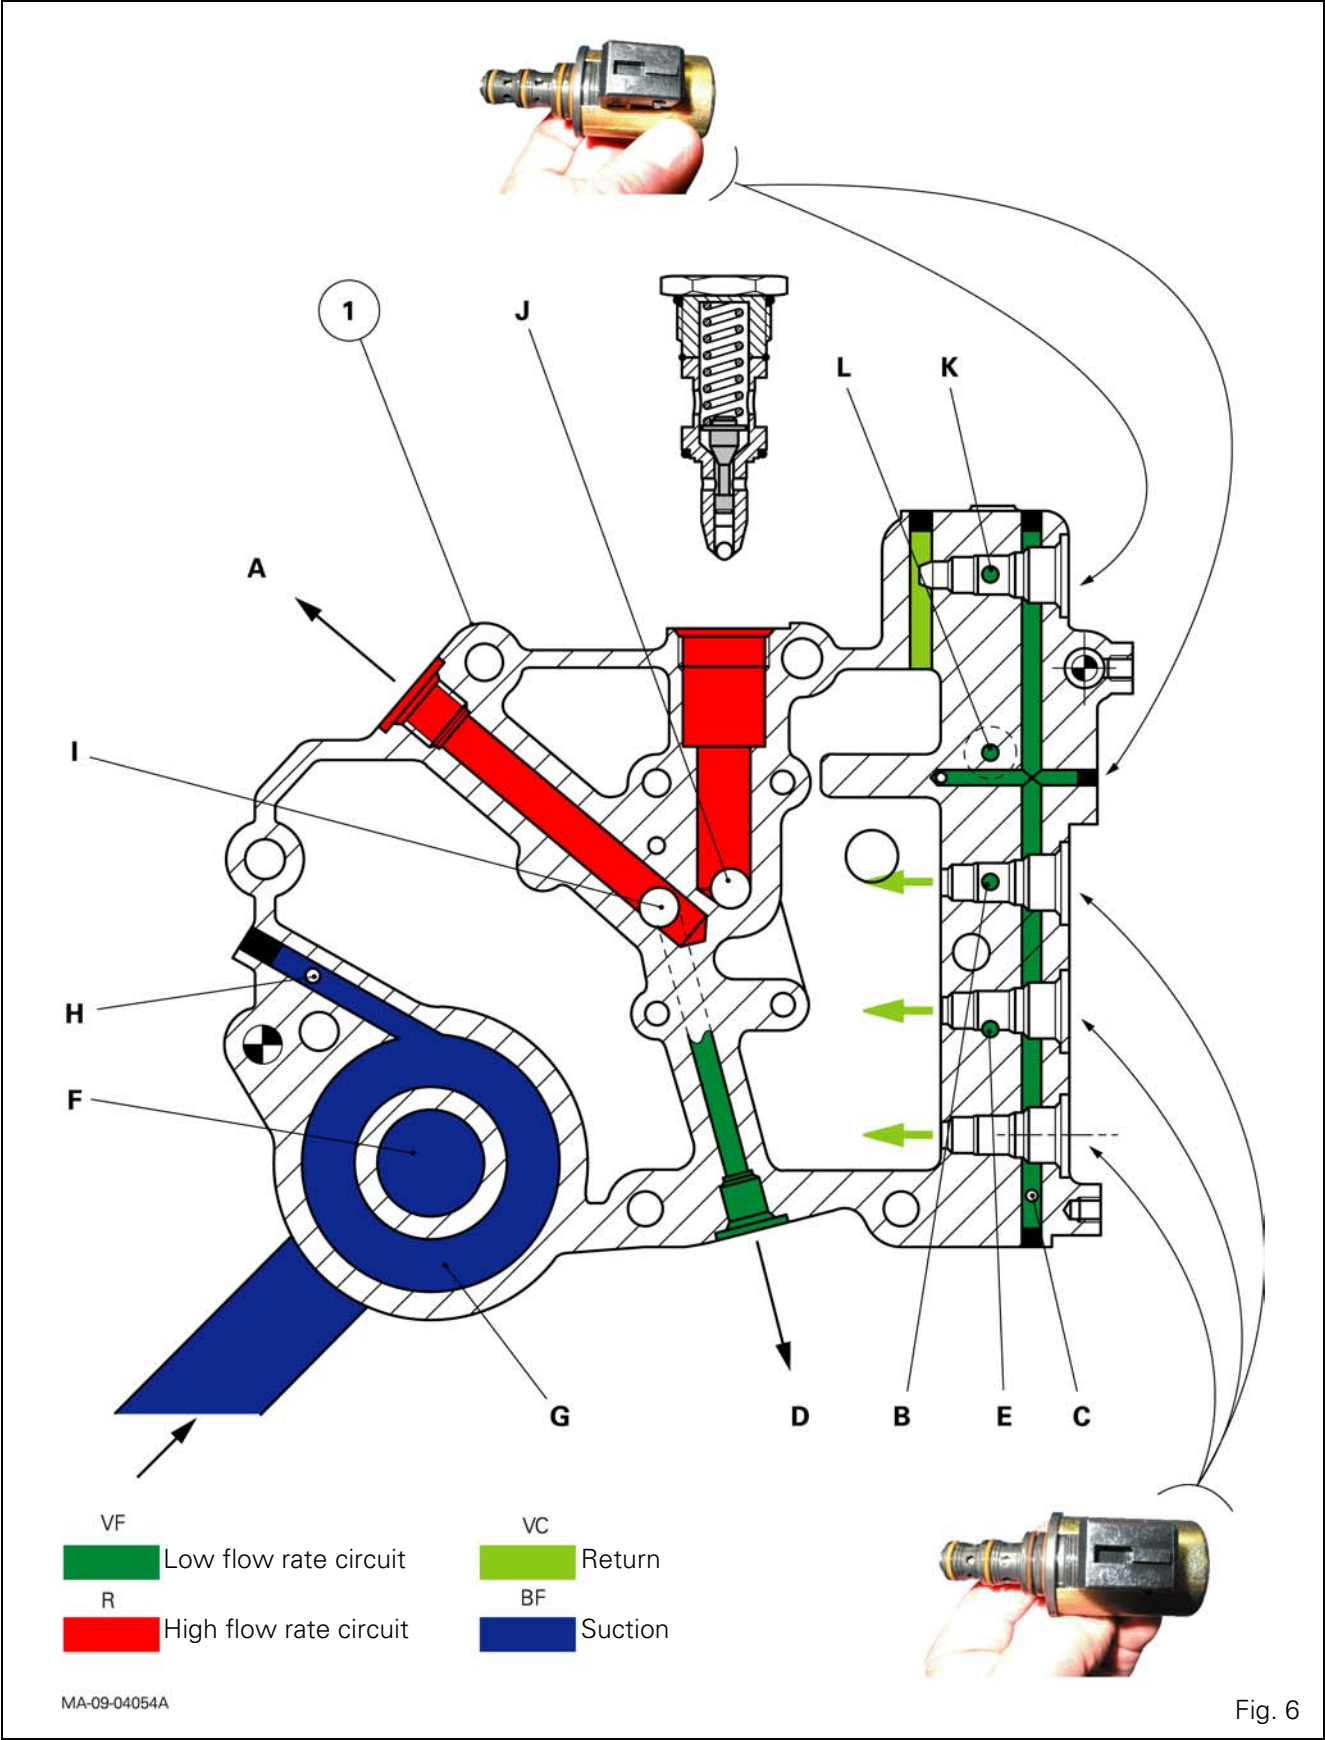
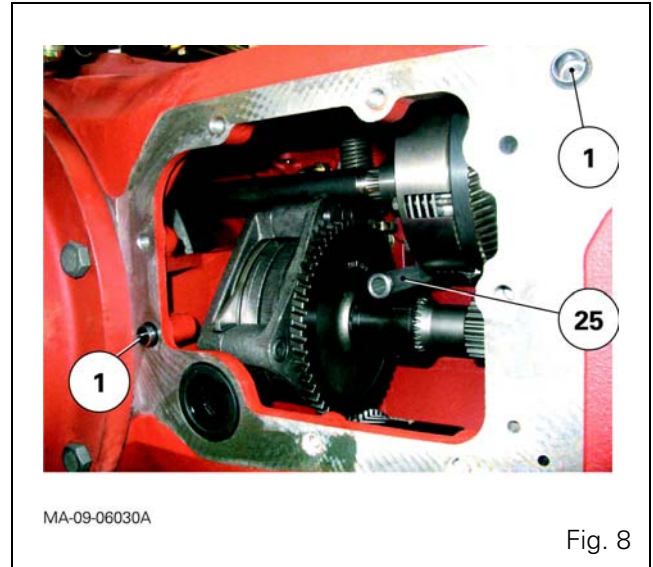

Fig. 6
Fig. 8
On the cover (1) (Fig. 6)
- 13.** Take out the screws (4) and remove the cover.
- 14.** After removing the cover, if necessary remove from the housing the transfer pipe (25) (Fig. 8), ensuring hydraulic continuity with the pump manifold.
- 16.** Check for the presence of the two locating pins (1) and rivets at the ends of the channels on the cover (Fig. 6 and Fig. 8).